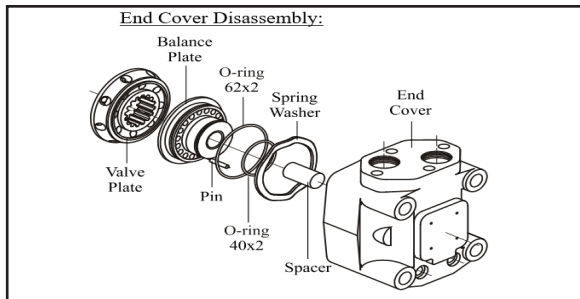

Figure 6
**NOTE** See diagram of end cover components. The next five disassembly steps will be directly related to removing components from within the end cover. (Figure 6)